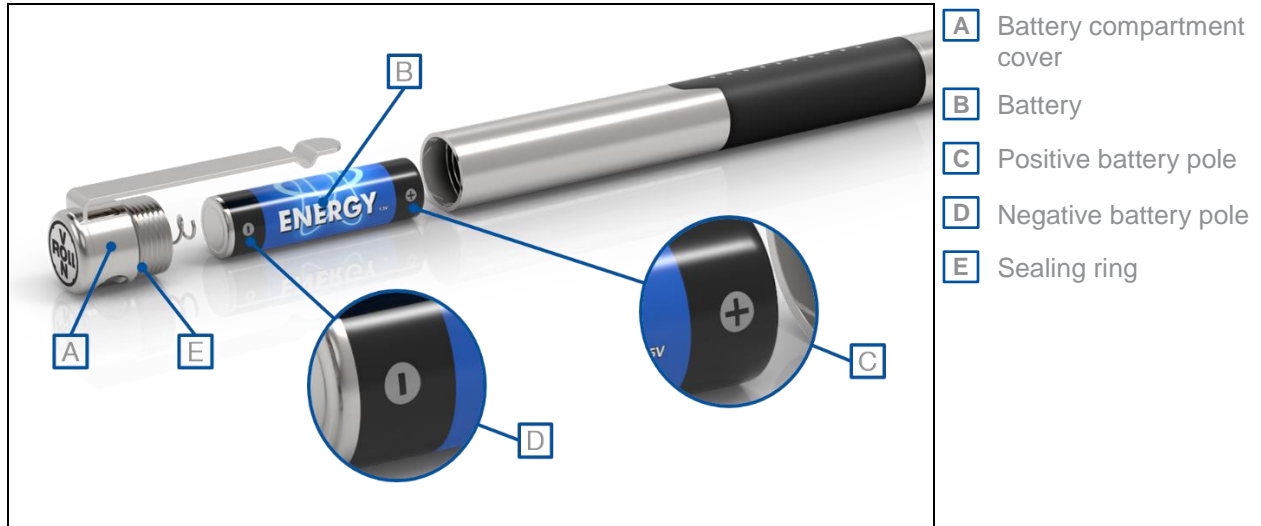

Figure 3
1. Unscrew the battery compartment cover (Figure 3, [A]) from the LEAKPEN.
2. Insert a battery or replace the old one (Figure 3, [B]), and pay attention to the polarity of the battery (Figure 3, [C] & [D]).
3. Make sure that the sealing ring (Figure 3, [E]) is correctly seated and not dirty or damaged.